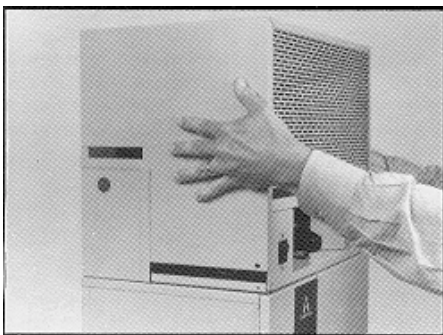

Figure 2-4
8. **Replace the fan unit cover.** This completes the installation. Note: The cover **must be in place** for the fan unit to operate properly. (See Figure 2-4).